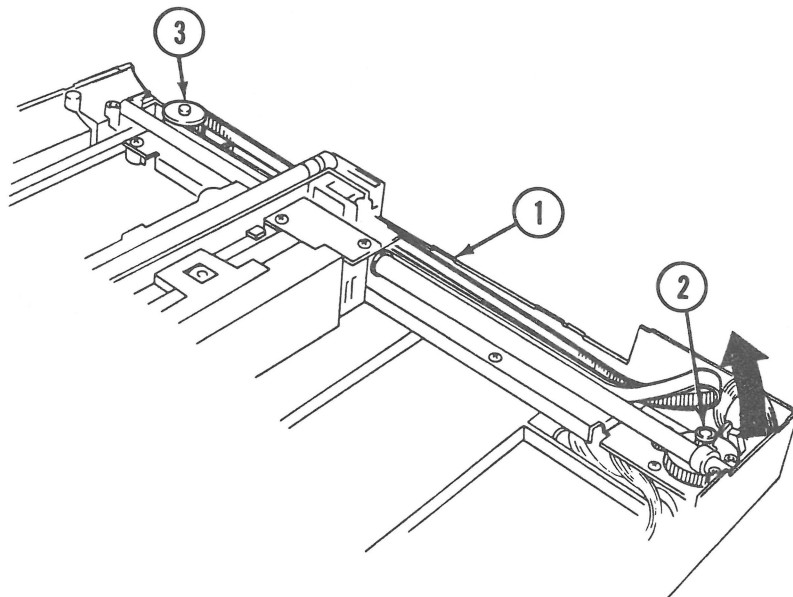

FIGURE 9
13. Remove the drive belt (Figure 9, #1) from the forward pulley gear (Figure 9, #2) and from the rear pulley (Figure 9, #3).